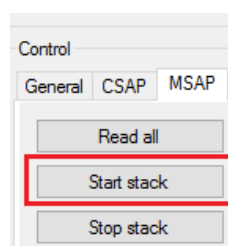

Figure 3: Start the sink
- d) Start the radio stack on the "MSAP" tab (see figure 3).